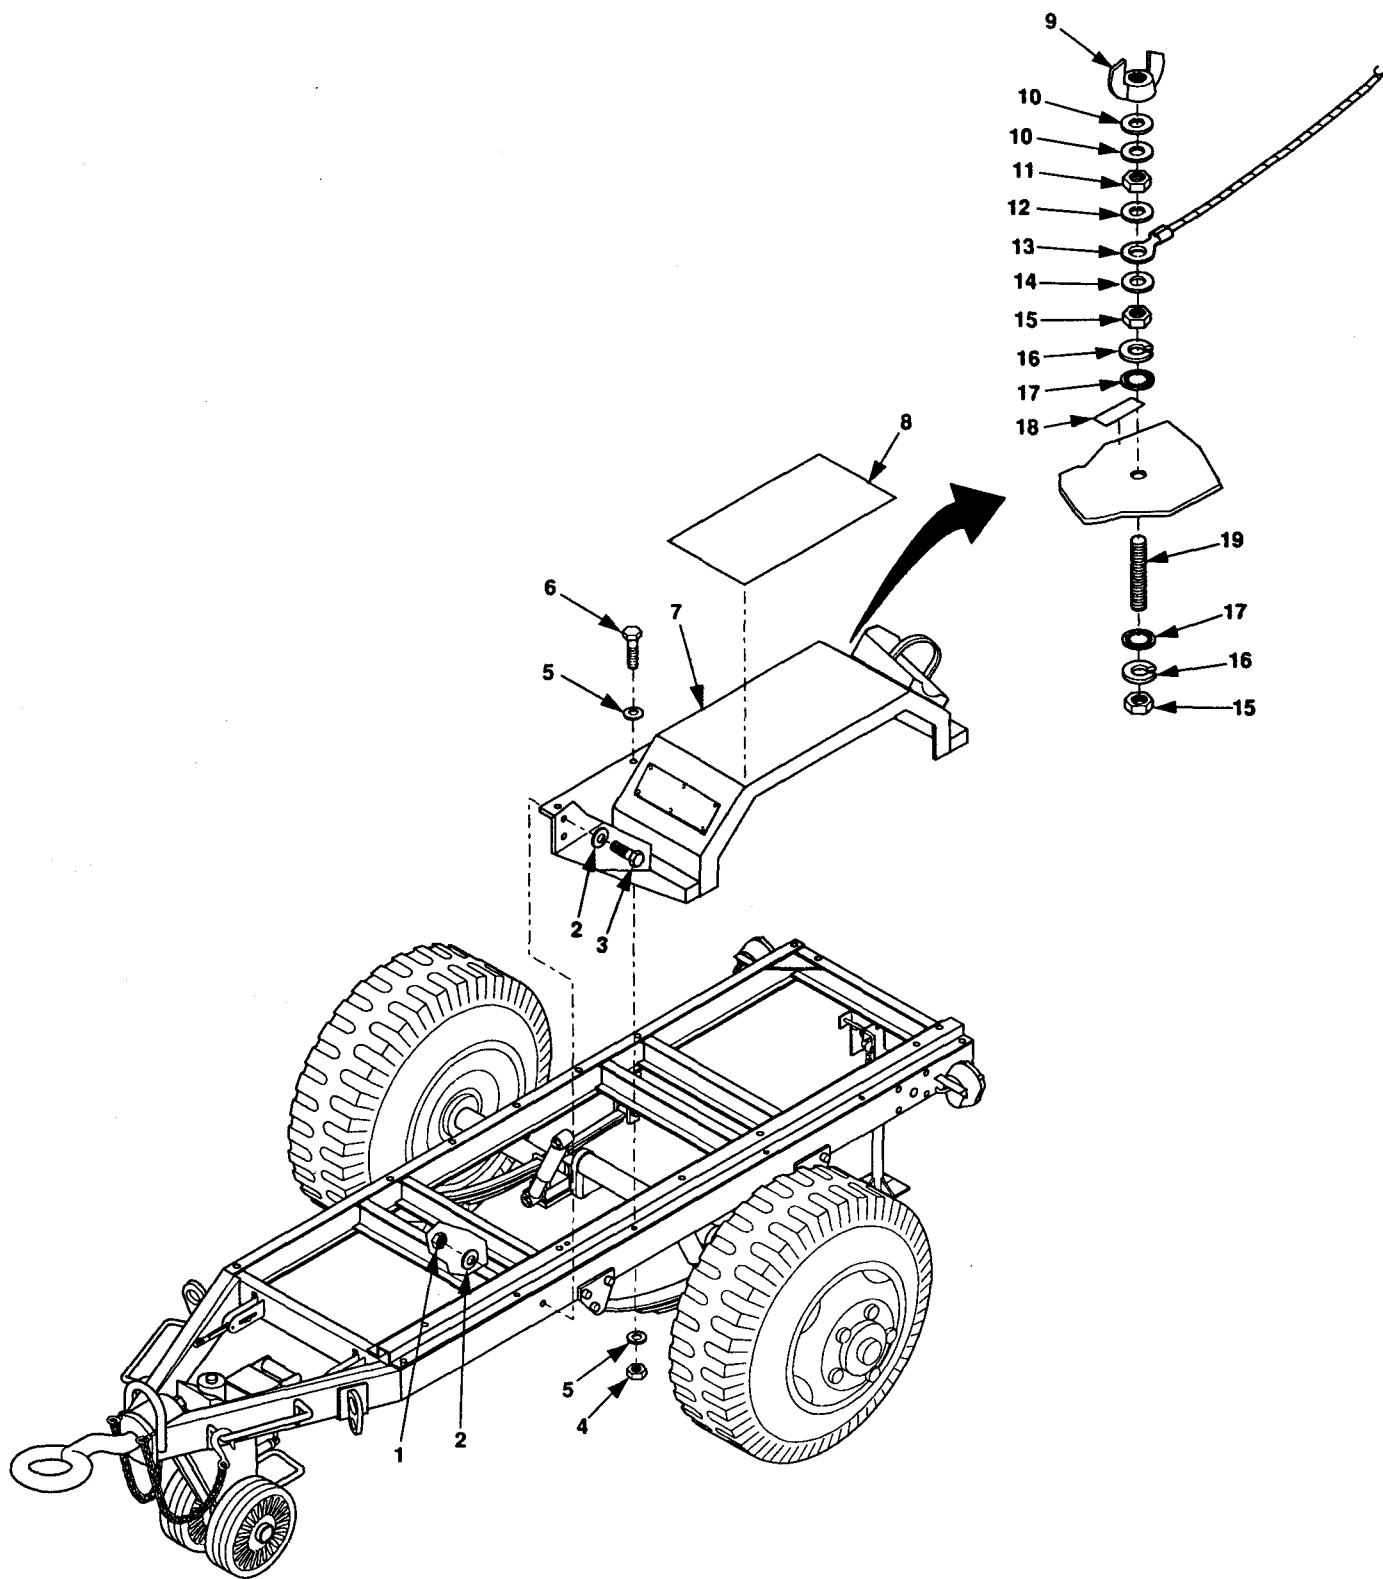

Figure 4-26. AN/MJQ-36 Fender.
1. Remove wing nut (9, figure 4-26), two flat washers (10), nut (11), flat washer (12), ground cable (13), and flat washer (14).
1. Loosely install fender (7, figure 4-26), five screws (6), ten flat washers (5), and five self-locking nuts (4).
2. Install and tighten four cap screws (3), eight flat washers (2), and four self-locking nuts (1).
3. Tighten five self-locking nuts (4).